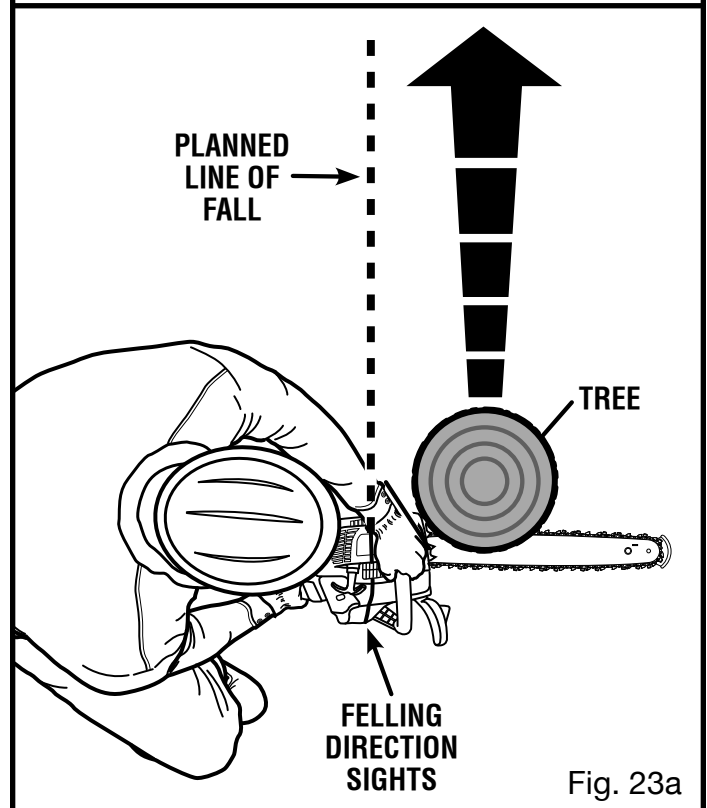

Fig. 23a
**NOTE:** Before every cut, make sure the felling sights on the saw housing are aligned with the direction path for the tree to fall. Figure 23a shows how the felling direction sights are used when making the back cut.